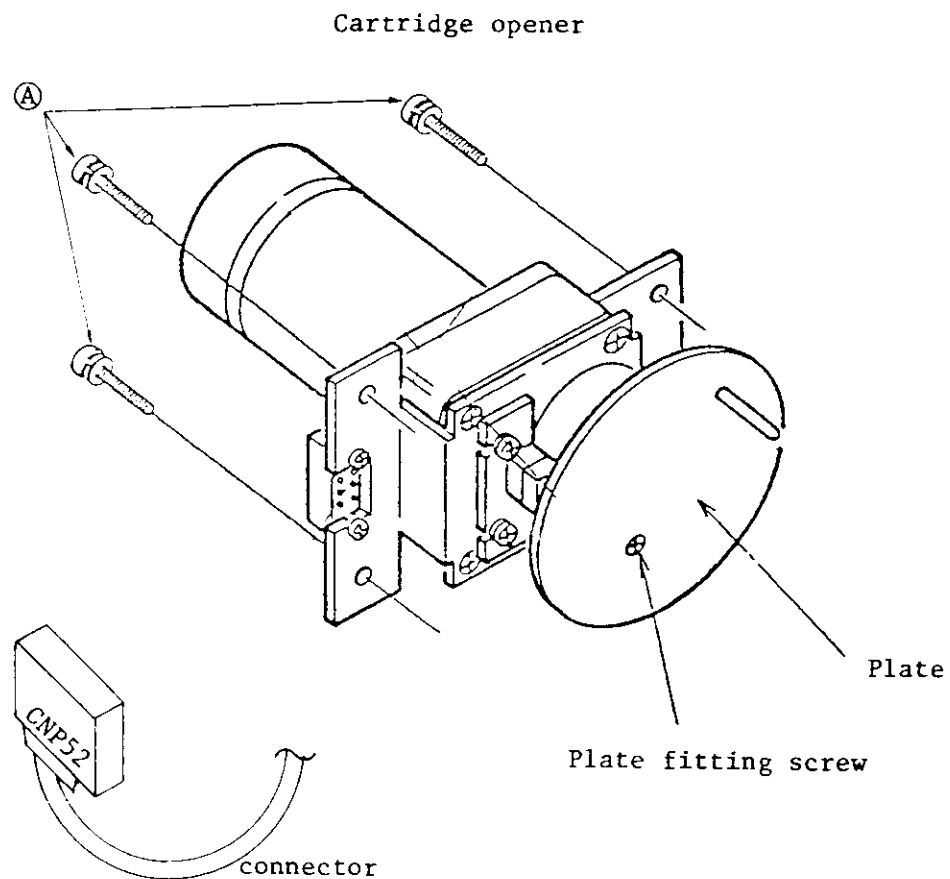

Figure L.15 Cartridge opener
- (1) Remove the plate retaining screw, shown in Figure L.15, and remove the plate.
- (2) Open the rear door on the MTU, and disconnect connector CNP52.
- (3) Remove the three screws (A), and remove the cartridge opener.